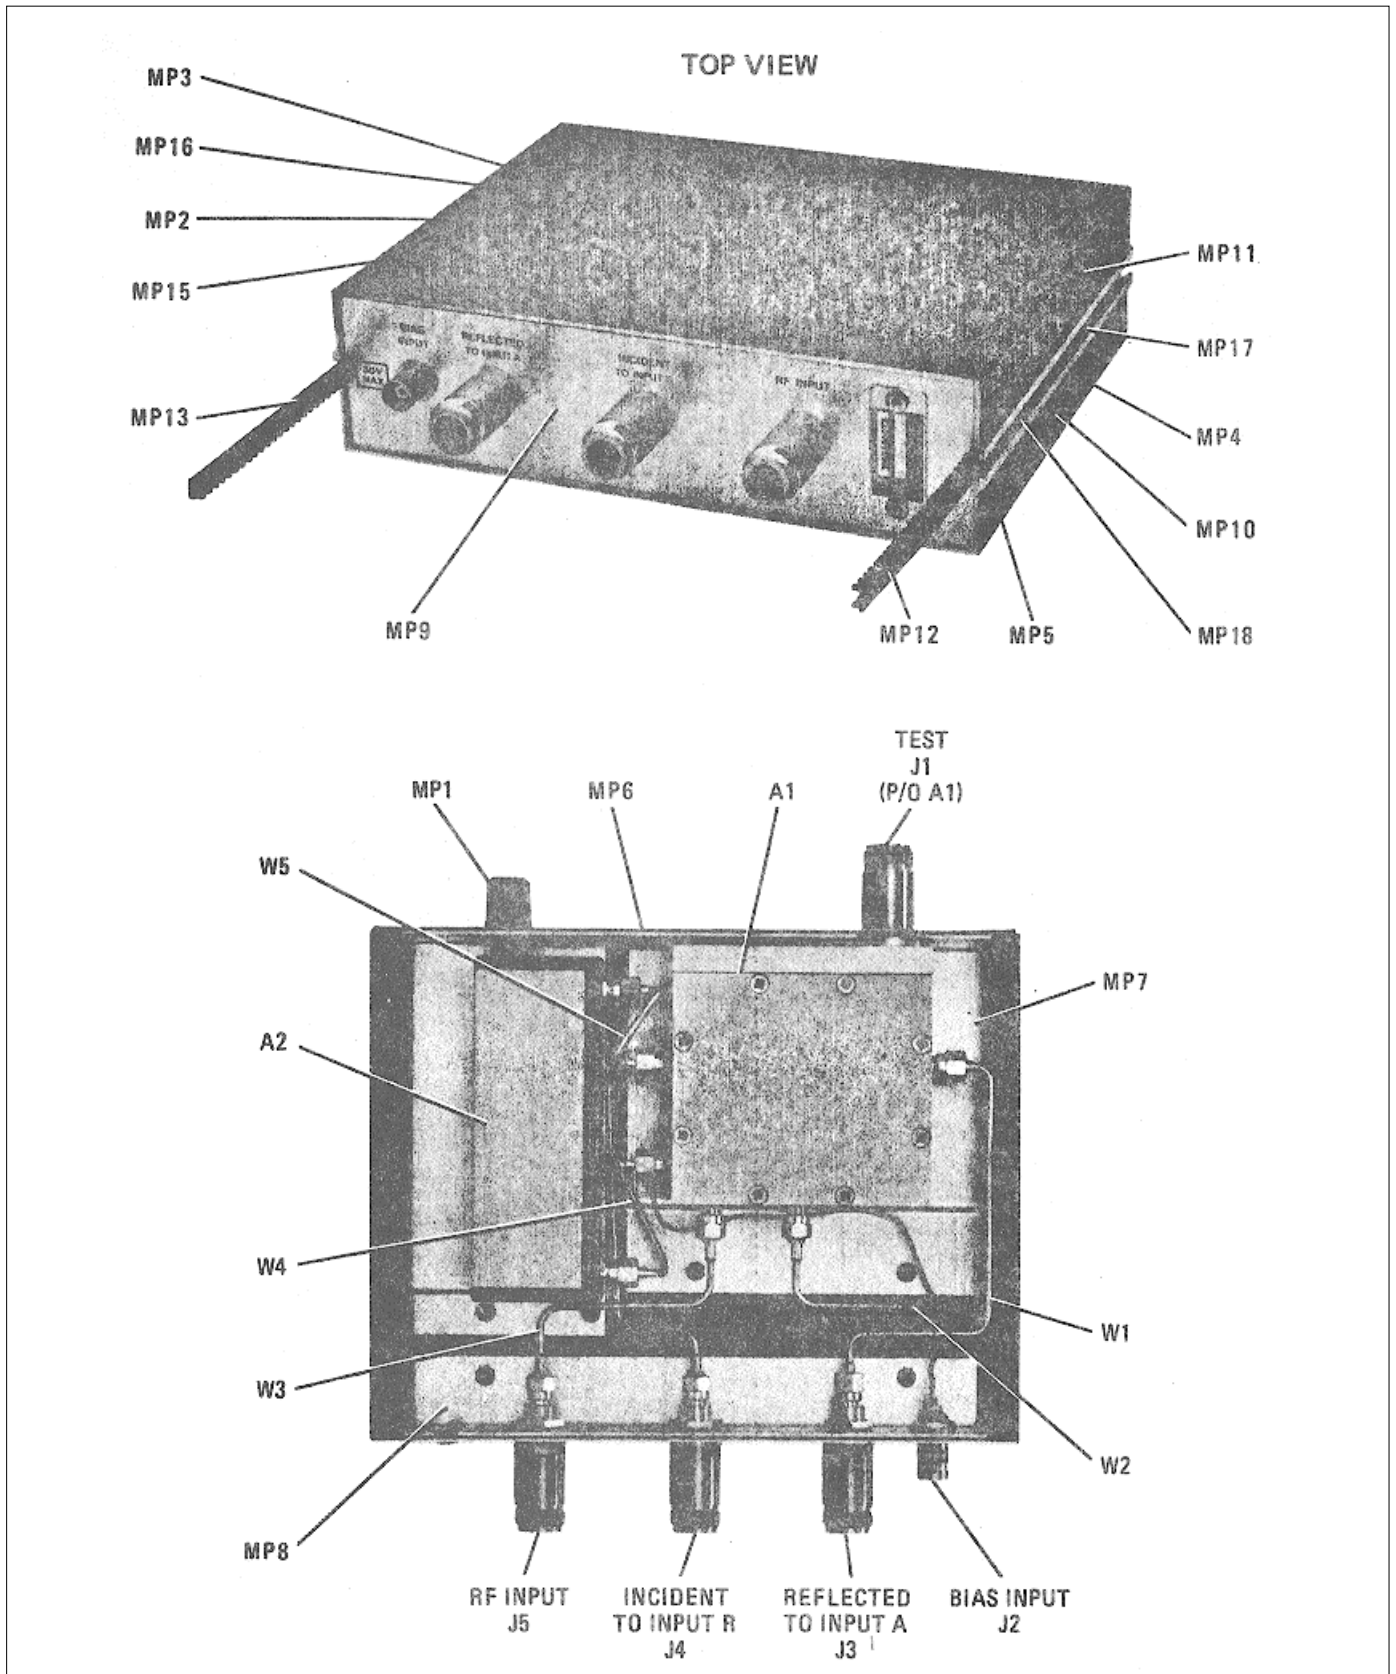

Figure 21. Major Assemblies and Parts Locations39
44.	TRANSMISSION FREQUENCY RESPONSE TEST f.(3) MAG: h.(6) PHASE:		_____ _____	0.8 dB 8°
45.	REFLECTION FREQUENCY RESPONSE TEST f.(3) MAG: 0.5 – 1300 MHz h.(6) PHASE: 0.5 – 1300 MHz j.(2) PHASE: 2 – 1300 MHz		_____ _____ _____	1.5 dB 15° 10°
46.	TEST PORT OPEN/SHORT RATIO TEST g. MAG: 1000 – 1300 MHz i. PHASE: 1000 – 1300 MHz j.(4) MAG: 2 – 1000 MHz k.(2) PHASE: 2 – 1000 MHz m.(2) MAG: 0.5 – 2 MHz n.(8) PHASE: 0.5 – 2 MHz		_____ _____ _____ _____ _____ _____	1.8 dB 15° 1.5 dB 12° 2.5 dB 20°
48.	PORT RETURN LOSS TESTS Incident Port h.(3) 1000 – 1300 MHz i.(2) 100 – 1000 MHz l.(3) 2 – 100 MHz m.(2) 0.5 – 2 MHz Reflected Port h.(3) 1000 – 1300 MHz i.(2) 100 – 1000 MHz l.(3) 2 – 100 MHz m.(2) 0.5 – 2 MHz RF Input Port h.(3), i.(2) 100 – 1300 MHz l.(3), m.(2) 0.5 – 100 MHz	23 dB 25 dB 25 dB 23 dB 23 dB 25 dB 25 dB 23 dB 23 dB 23 dB	_____ _____ _____ _____ _____ _____ _____ _____
52. Replaceable parts are listed in Table 7 and identified in Figure 21. Parts of Type N Connector Assembly (J3, J4, and J5) are shown in Figure 22. 8502A attaching hardware (screws, washers, etc.) is listed and identified in Figure 23.
- d. Remove cables W1, W2, and W3 from Directional Bridge A1. (See Figure 21.) Use 5/16 open-end wrench to loosen cable connectors.